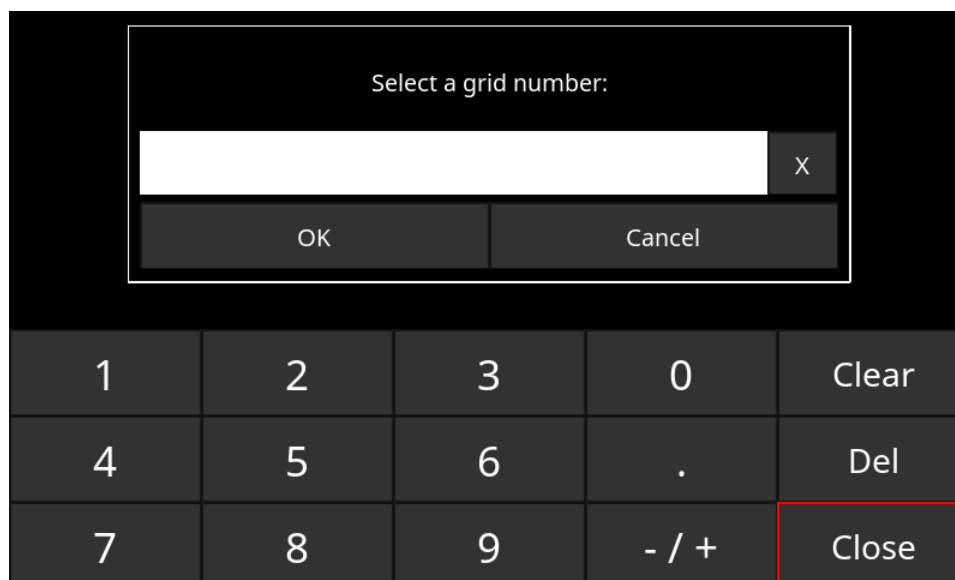

Figure 7-4: This screen allows the user to directly input the grid they wish to go to
- **Grid Number** - Grid Scans are numbered from 1 to 20. Pressing **+/-** on the bottom menu will increment/decrement the grid number. Alternatively, pressing the grid number button itself will show the screen in Figure 7-4. From here, you can go directly to any grid. If the grid number is in green, then no data exists in that grid. However, if the grid number is in red then data already exists in that grid; see Section 7.6 below.